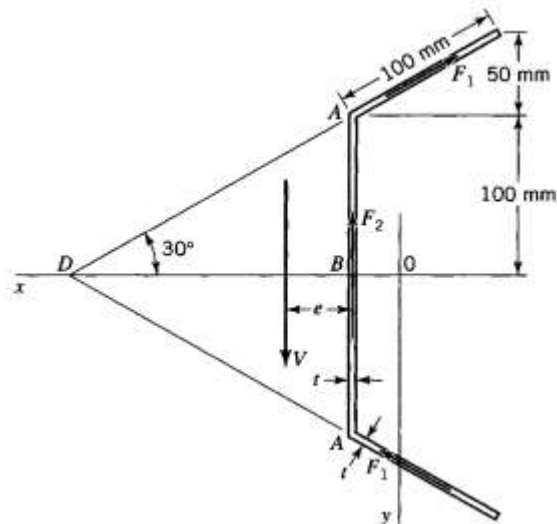

Figure 1
b) A 4-mm thick plate of steel is formed into the cross section shown in Figure 1. Locate the shear center for the cross section. 10 M